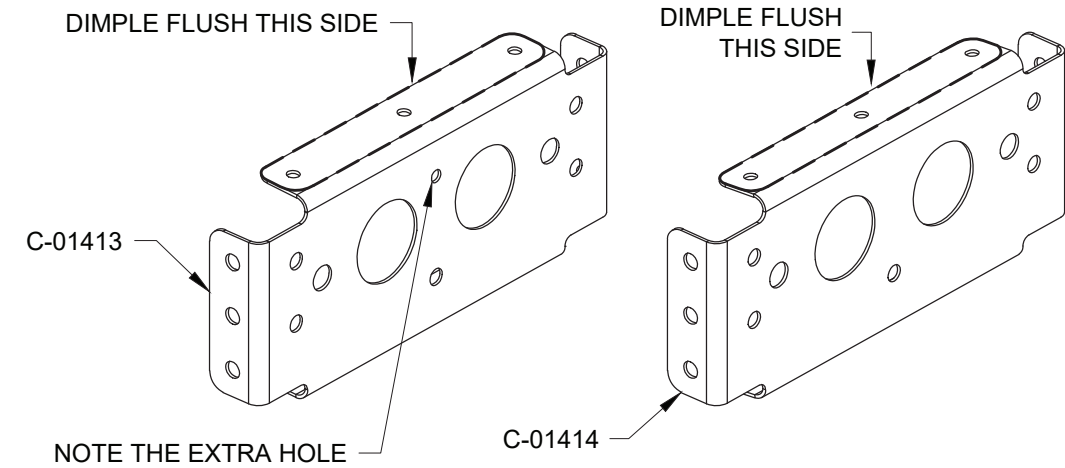

FIGURE 2: HINGE INTERCOSTALS
Step 8: Dimple the #40 holes in the top flanges of the two C-01413 Inboard Hinge Intercoastals and the two C-01414 Outboard Hinge Intercoastals as shown in Figure 2.